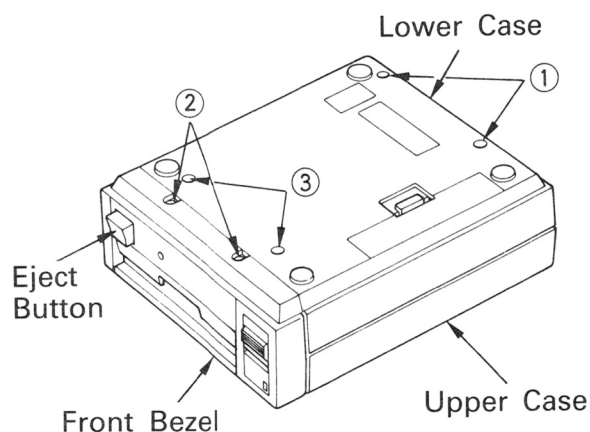
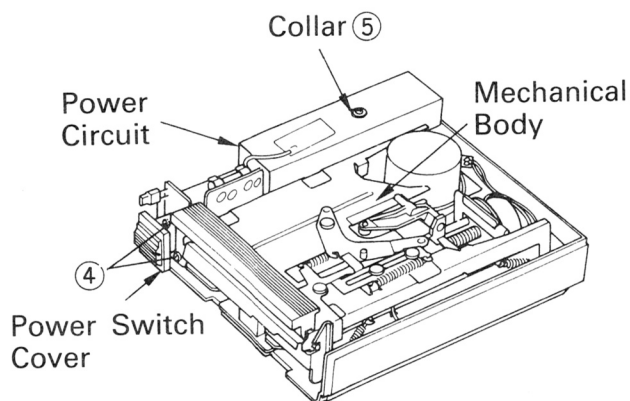

Fig. 3-2
Fig. 3-3
1. Refer to Fig. 3-2 and loosen the 2 set screws ① near the back of the lower case.
3. Loosen the 2 set screws ② closest to the front edge of the lower case.
5. Refer to Fig. 3-3 and remove the power switch cover.
6. Remove the 2 set screws ④.
7. Remove the set screw ⑤ and the collar.
8. Loosen the 2 set screws ③ near the front of the lower case. (See Fig. 3-2.)
10. Detach the lower case by holding onto the mechanical body and the power circuit (Fig. 3-3), then lift up.